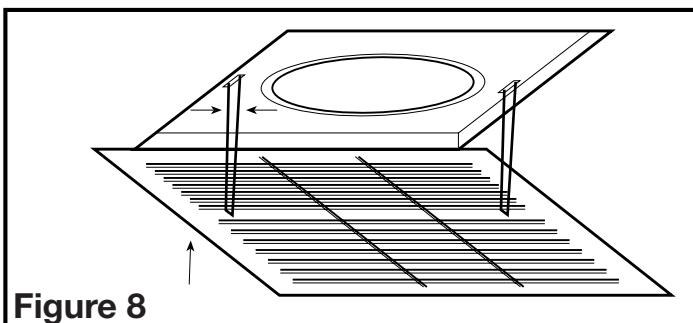

Figure 8
- Install the grill by squeezing the two ends of the springs together and installing them up into the slots of the fan's venturi. Push the grill up into position (**Figure 8**).